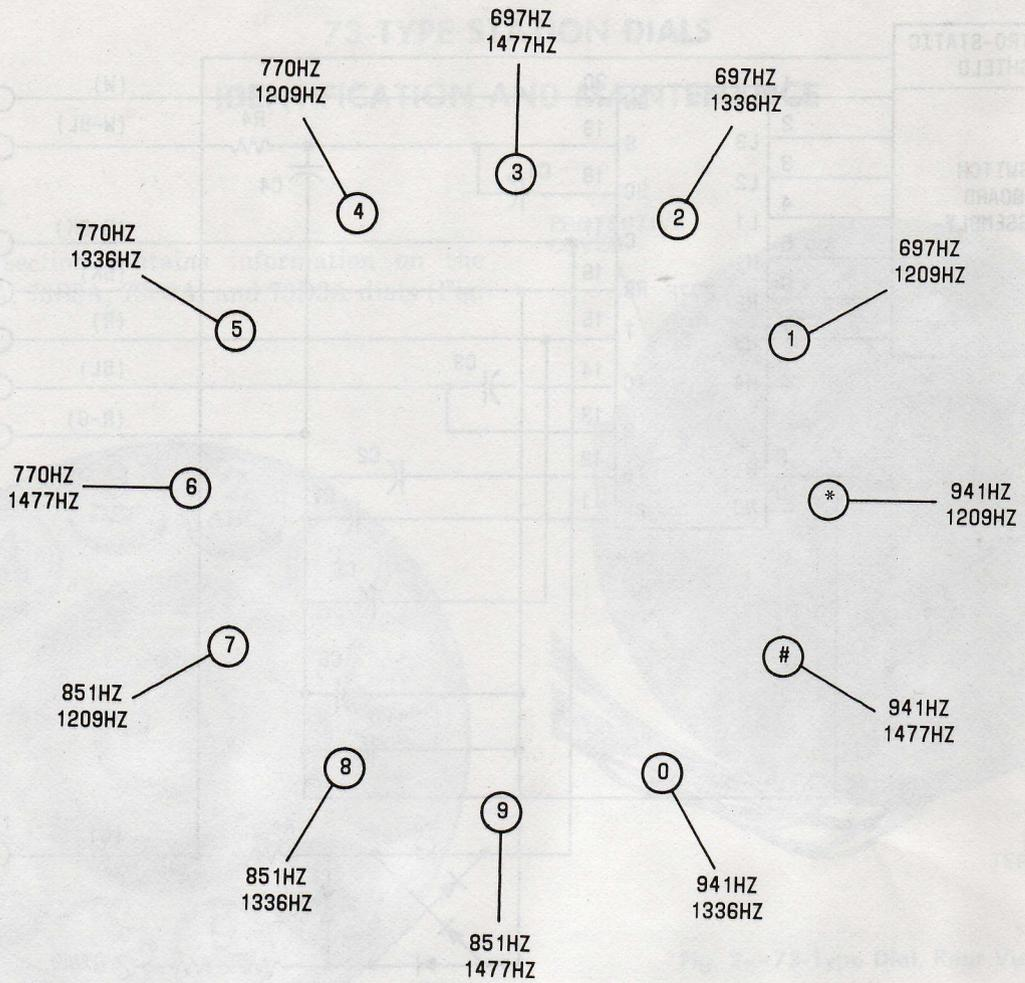

Fig. 3—Dial Frequencies
2.04 Each of the buttons, when operated, generates a dual tone, multifrequency (DTMF) signal distinctive to that button. Figure 3 indicates the frequencies for each button. All buttons operate the common switch which reduces sidetone to the receiver, opens the transmitter path, and turns on the signaling frequencies. Both the signaling and common switch functions are provided by the 677F (Fig. 4) hybrid integrated circuit (HIC).